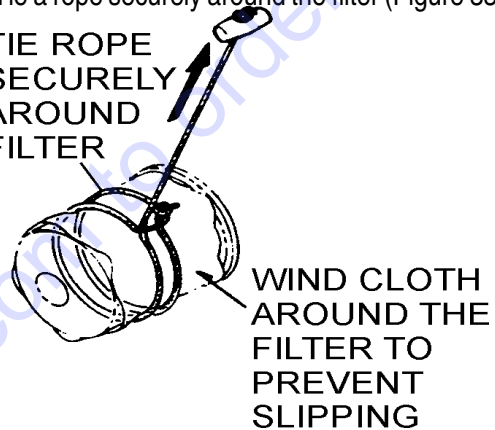

Figure 33. Cloth and Rope Around Filter
4. To remove the oil filter, wind a cloth around the filter to prevent slipping (Figure 33).
5. Tie a rope securely around the filter (Figure 33).